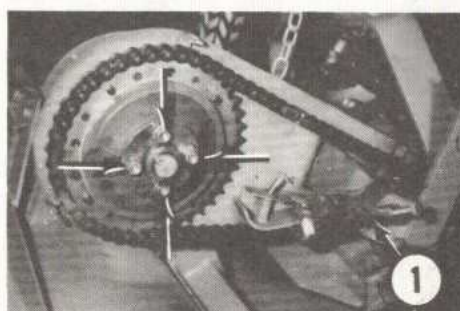

FIG. 36
4. Compress tension spring by attaching vise grips (1), Fig. 36.
2. Remove drive chain tension by compressing spring tension with vise grips (1), Fig. 36.
3. Remove drive chain tension by compressing spring with vise grips (1), Fig. 36.